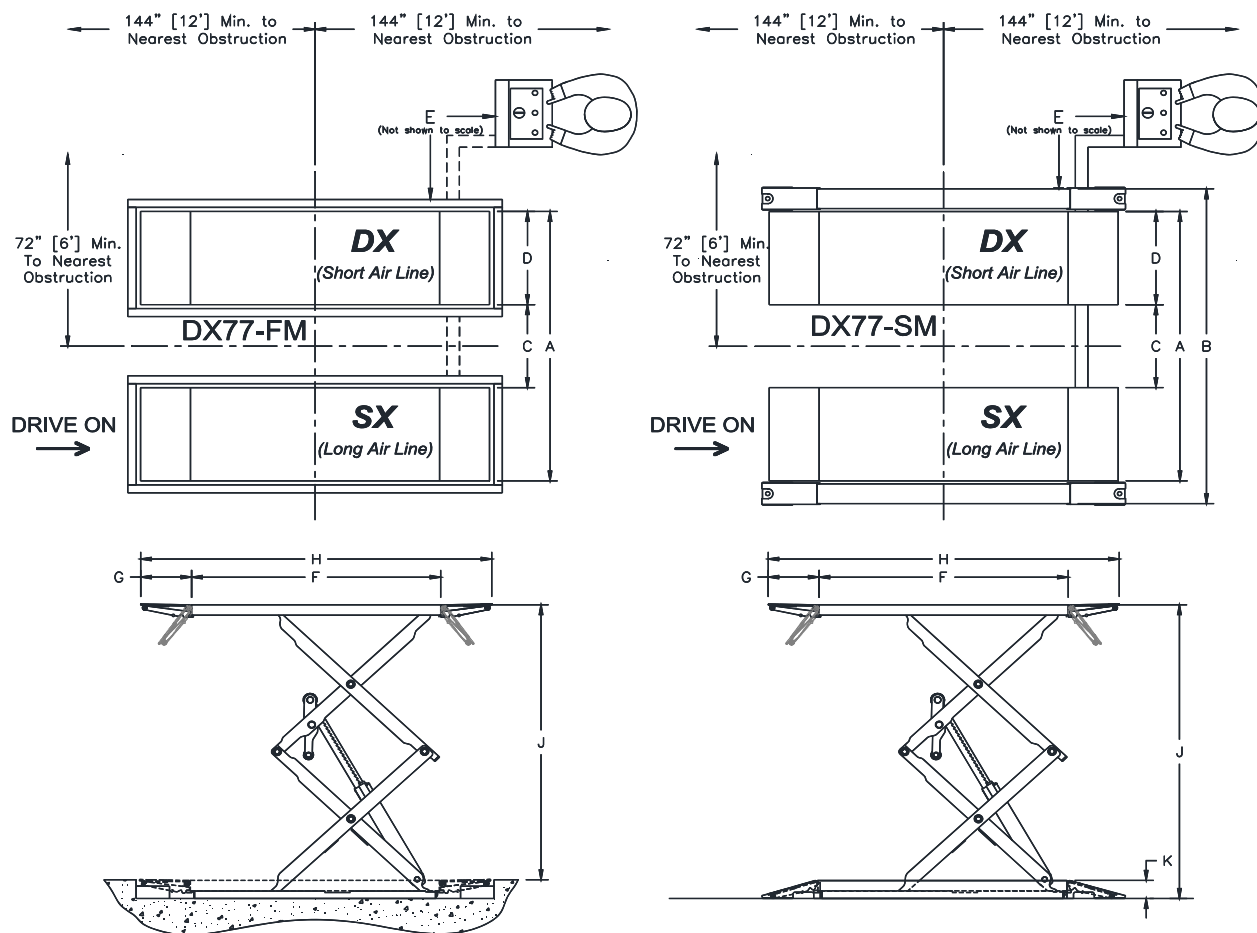

Fig. 1 - General Specifications
- 1) Layout the service bay according to the architect's plans or owners instructions (**see Fig. 1**). **Failure to install in this orientation can result in personal and property damage.** Be certain that the proper conditions exist, see page 3.